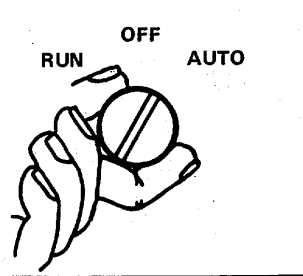

FIGURE 3-18. Generator Set Start-up.
- (5) Start the generator set. (FIGURE 3-18)